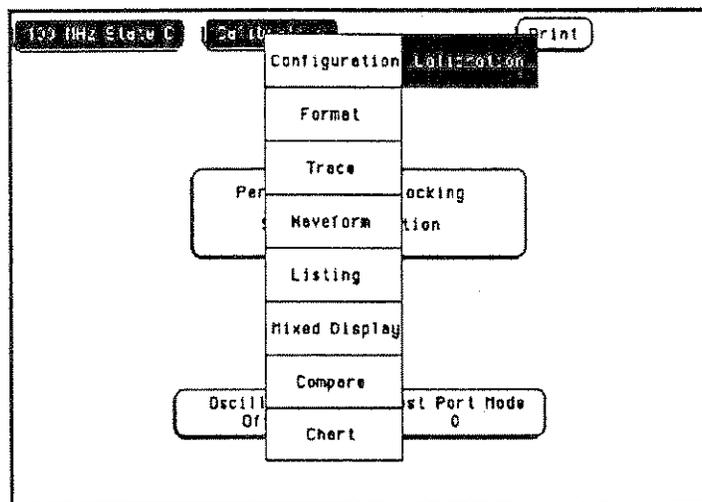

Figure B-14. Exit Calibration
10. To exit the calibration menu, touch Calibration, then touch Configuration in the pop-up menu. See figure B-14.